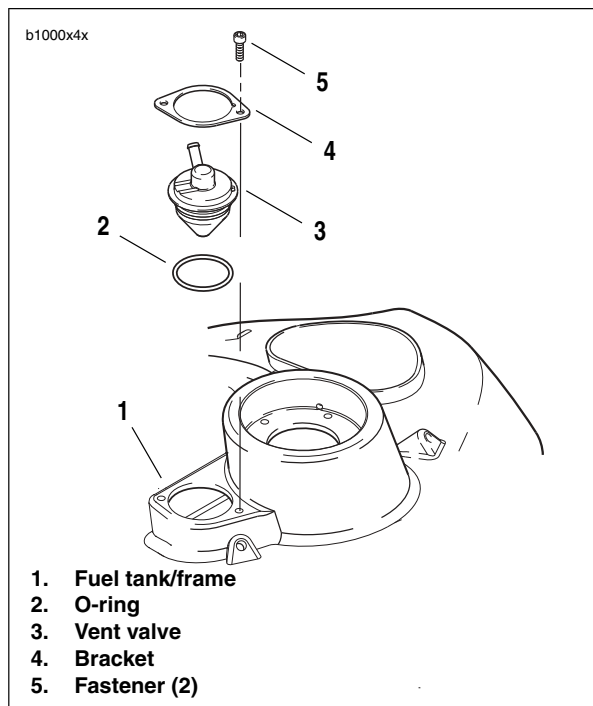

Figure 4-95. Fuel Tank Vent Valve
7. See Figure 4-95. Remove vent valve fasteners (5).
8. Remove bracket (4), vent valve (3) and o-ring (2) from fuel tank/frame (1).
1. See Figure 4-95. Install **new** vent valve o-ring (2).
2. Install vent valve (3) into fuel tank/frame. Vent valve nozzle should be at approximately the 7:00 position.
4. Loosely install vent valve fasteners (5).